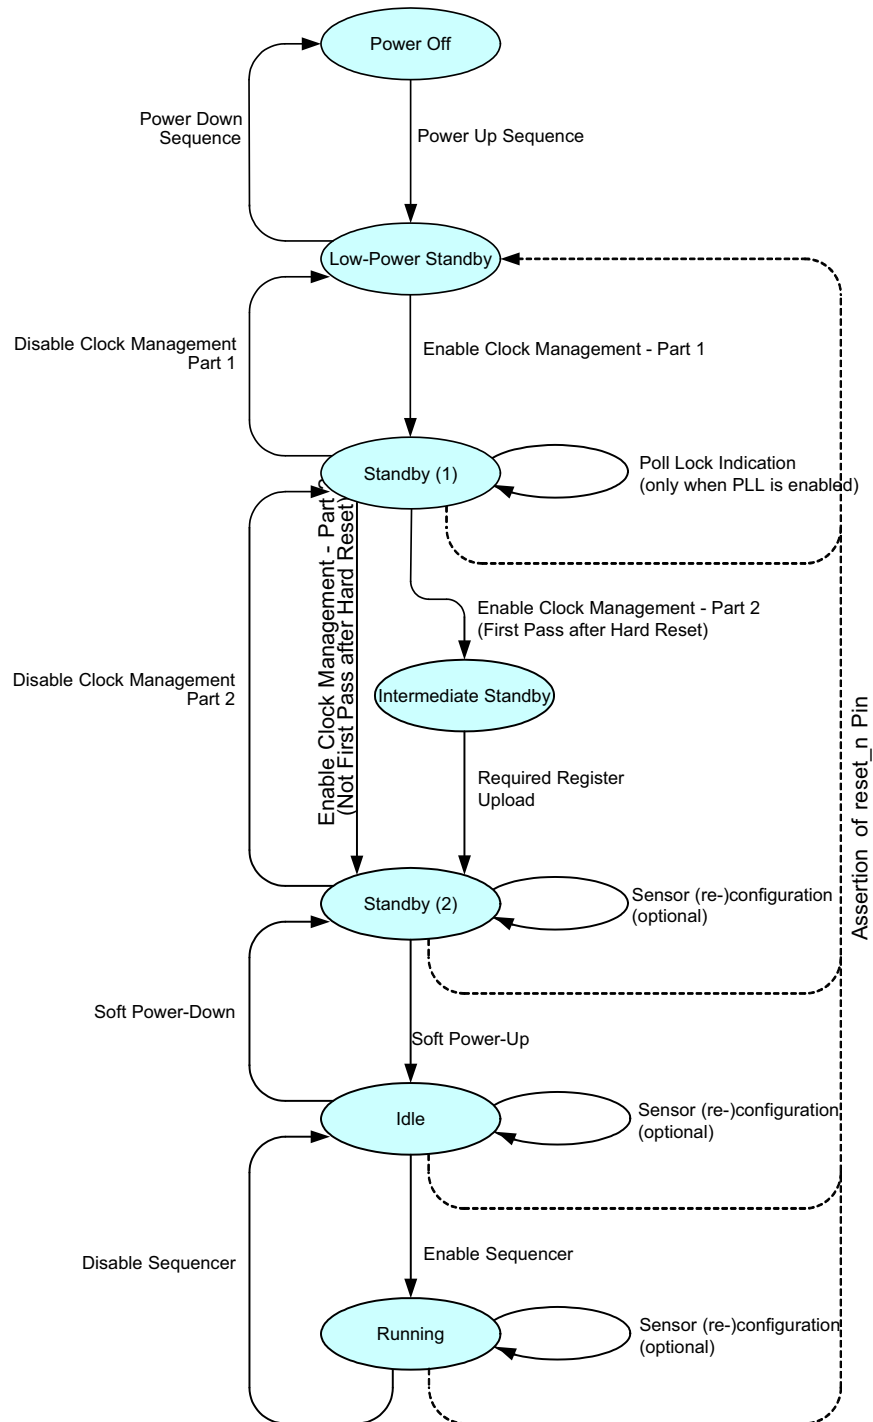

Figure 15. Sensor Operation Flowchart
Figure 15 shows the sensor operation flowchart. The sensor has six different 'states'. Every state is indicated with the oval circle. These states are Power off, Low power standby, Standby (1), Standby (2), Idle, Running.
Check the PLL_lock flag 24[0] by reading the SPI register. When the flag is set, the 'Enable Clock Management- Part 2' action can be continued. When PLL is not used, this step can be bypassed as shown in Figure 15 on page 14.